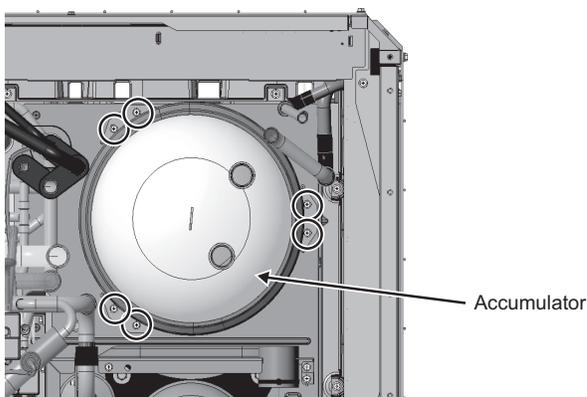

Fig. 10
(10) Remove the screws securing the accumulator at the bottom. (Six screws: Fig. 10)